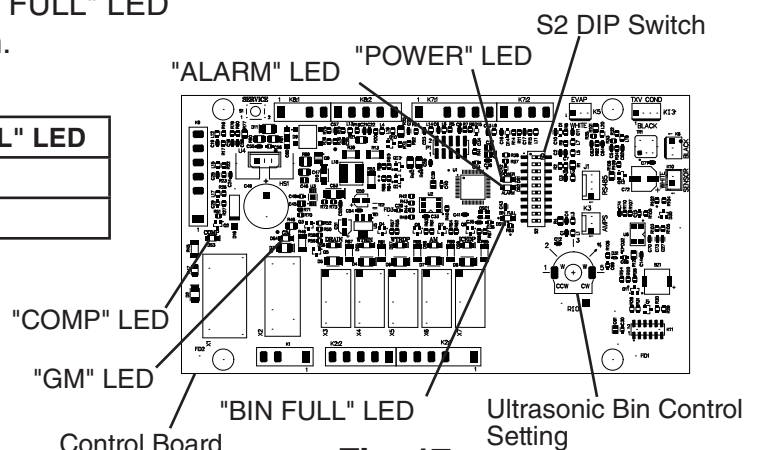

Fig. 17
- 5) Confirm the control board orange "BIN FULL" LED is off (bin empty). "POWER LED" is on. See Fig. 17.